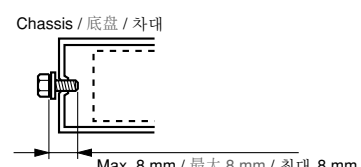

Figure 3 / 图 3 / 그림 3
4. Use the enclosed screws for installation. Using other screws can cause damage. (Figure 3)
4. 请使用附带的螺丝进行安装。使用其他螺丝可能引起故障。(图3)